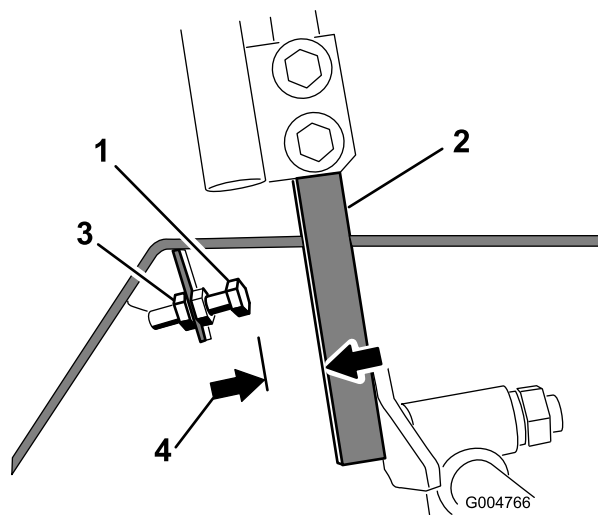

Figure 88
4. Loosen the jam nut on the stop bolt for a control lever (Figure 88).